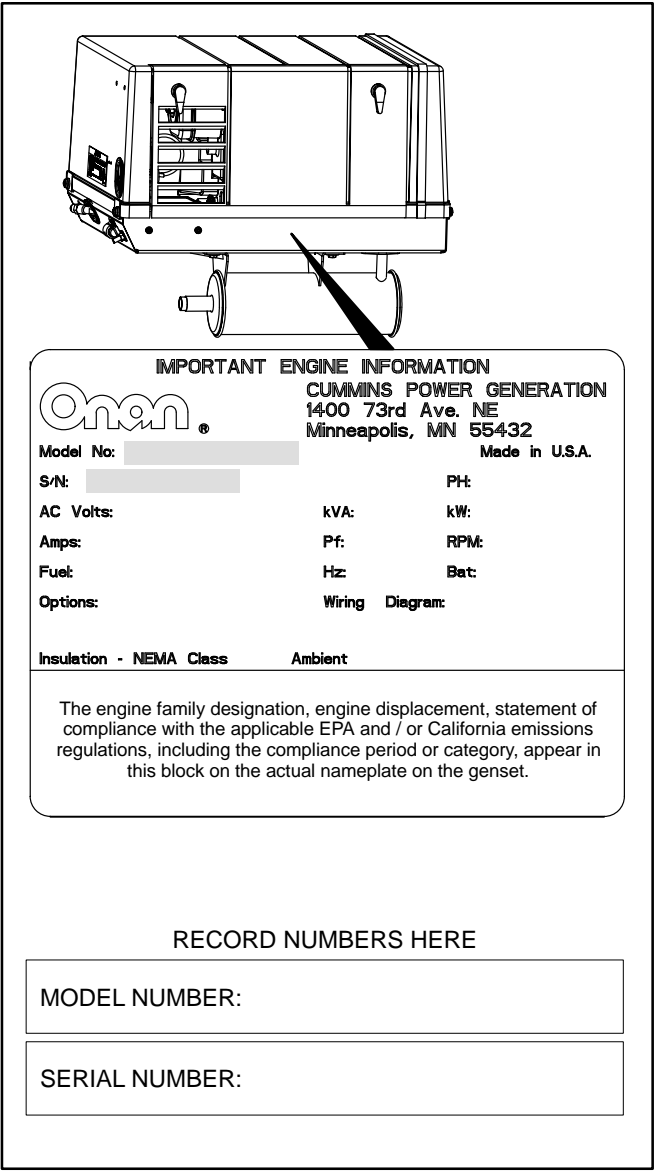

FIGURE 1-1. TYPICAL NAMEPLATE
**Model and Serial Numbers:** Refer to Figure 1-1 for the location of the genset nameplate. Record the model and serial numbers in the designated boxes in Figure 1-1 so that they are handy when calling for parts, service or product information. Each character, including the last letter in the model number, is important for obtaining the right parts.